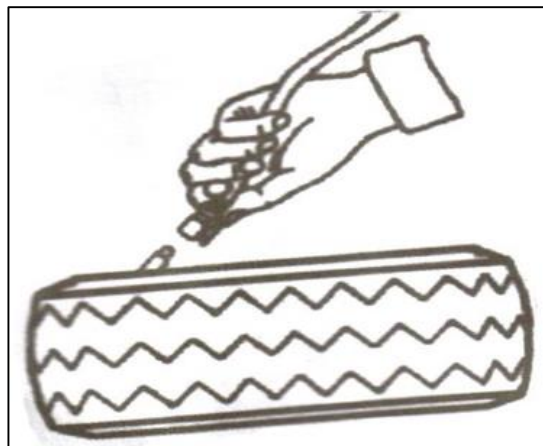

Fig. 23
When inflating the tire, please be careful and follow the operational process. Ensure to check the air routing to see if the air connection is ok. Note: the tire changer is equipped with an inflation pressure gauge to monitoring the inflation of the tire and the tire's pressure (Fig. 23).
2. Connect the inflation hose with the tire's preinstalled valve stem (Fig. 23)